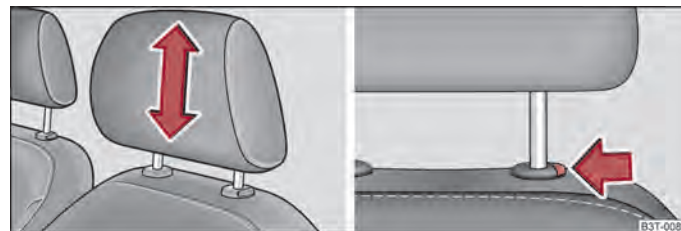

Fig. 59 Head restraint: Adjusting/pulling out
- Grasp the side of the head restraint with both hands and push it in upward direction as desired ⇒ fig. 59 - left.
- Move the head restraint downwards if required by pressing and holding the safety button with one hand ⇒ fig. 59 - right and by pressing with the other hand the head restraint downwards.
- Press the locking button in the direction of arrow ⇒ fig. 59 - right and pull the head restraint out.